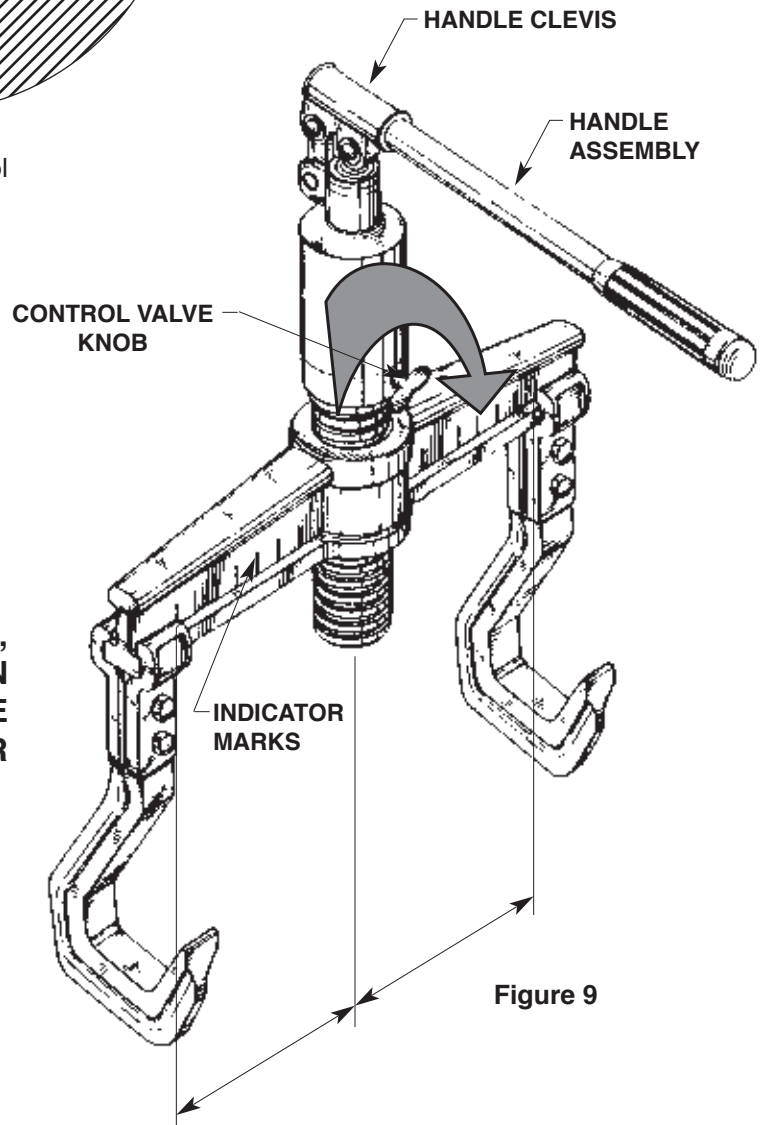

Figure 9
2. Using the indicator marks on the straightener tool body, position the straightener tool arms an equal distance apart from the center of the puller body. See Figure 9.
3. Place the handle assembly into the handle clevis. See Figure 9.
4. Place puller and tool on a bar or round bar stock to be straightened. Turn the control valve knob completely in a clockwise direction to advance the piston. See Figure 9.